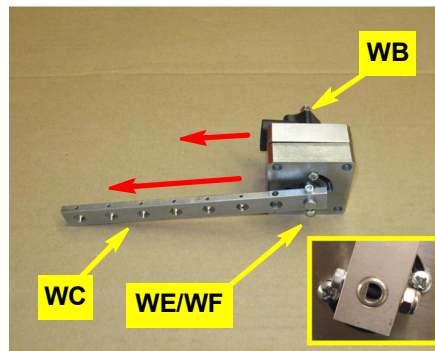

Figure 1c: WAS arm attached
- c. Attach WAS arm **WC** to the WAS assembly using hardware **WE** (nut) and **WF** (screw). Mount **WC** in the same direction as **WB**'s wire connector (Figure 1c).